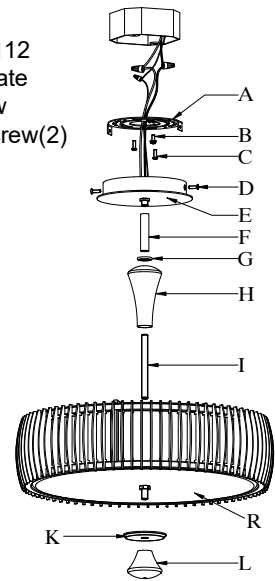

Fig.3
## Replacing LED module (Fig. 1, Fig. 3)
The LED module can be replaced by a qualified electrician without cutting of wire and without damage to any decorative element to which the fixture is attached. See installation steps for more details (Fig.3.)
- b. Remove the screws (D) and remove wire connectors and place fixture body on a clean flat surface.
- c. Loosen finial (L), and remove cap (K). Loosen hex nut (S), and remove acrylic shade (R).
- d. Loosen screws (Q) rubber washers (N) and remove panel glass (U).
- e. To disconnect LED module: Loosen studs (O), screws (P) and rubber washers (N). Press button of quick connector (T) on LED module (M) with screw driver to disconnect wire and carefully remove LED module (M).
- f. Reverse steps a - e for installing new LED module (M) (Fig.3).